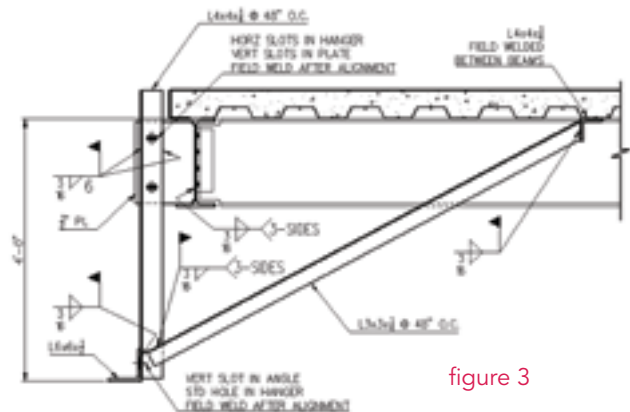

figure 3
- Attachment of diagonal braces to the underside of the deck with post-installed anchors can be very expensive. It may be less expensive to provide an angle or other suitable framing element between beams (see Figures 3 and 5) for attachment of diagonals when the diagonal frames parallel to the beams.